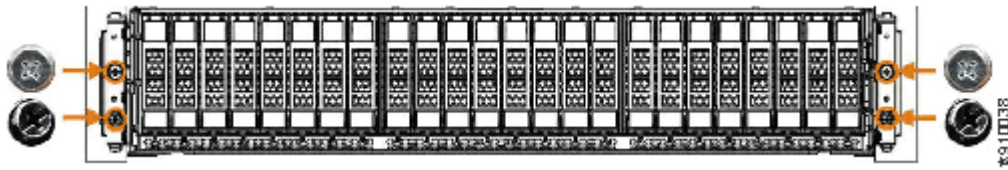

Figure 64. Four screws at the front of the enclosure
6. Unscrew the four M5 screws that secure the left and right end caps of the control enclosure to the rack, as shown in Figure 64 on page 113.